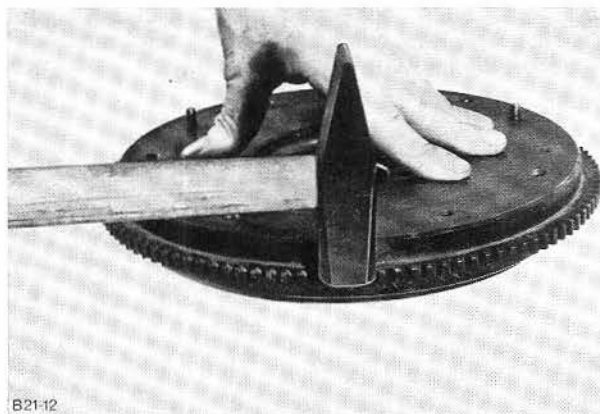

Fig. 104. Remove ring gear.
2. Remove ring gear by means of light blow with a hammer, Fig. 104.